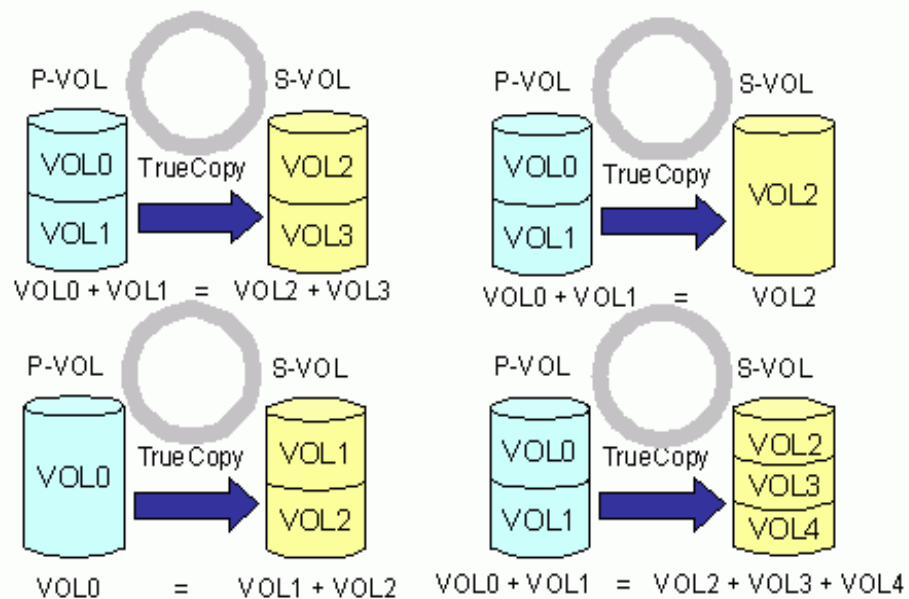

Figure 14-1: Capacity same, number of VOLS different
- P-VOL and S-VOL capacities must be equal, though the number of volumes composing them (unified volumes may differ, as shown in Figure 14-1).